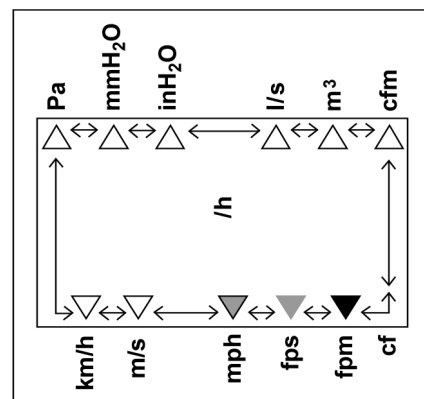

Figure 3: Display with annunciator and units of measure
- The display annunciator \blacktriangle will move to the selected unit (see Figure 3).